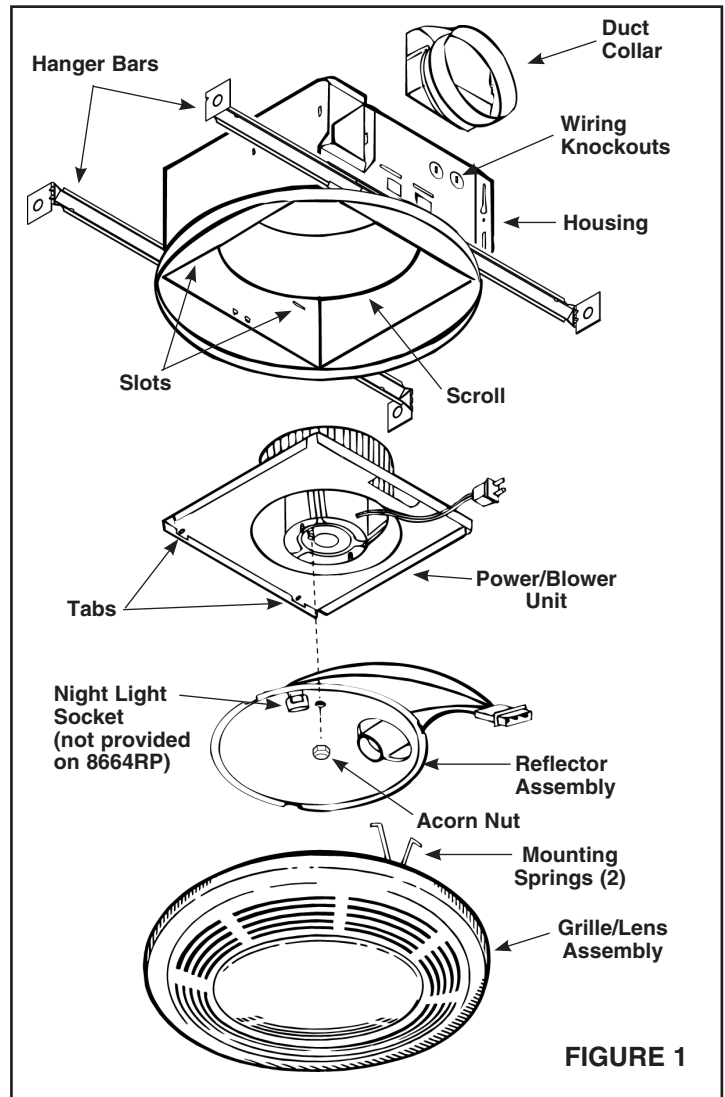

FIGURE 1
1. Refer to Figure 1. Remove power unit/blower assembly from housing.
1. Refer to Figure 1. Place duct collar over flanges at discharge opening of fan. Secure collar by snapping tabs into slots in flanges.